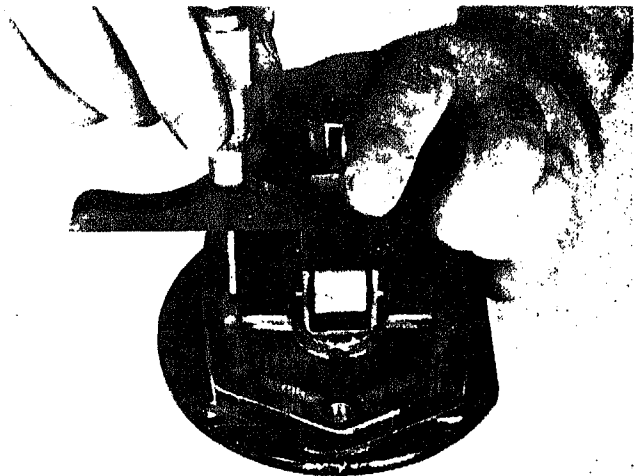

Fig. 506-14 Measuring assist plunger protrusion
- a. Place one leg of the depth mike base of pedestal across the carrier walls and measure down to the front cover gasket surface (no gasket). Fig. 506-14. Move the depth mike to the opposite side of the carrier and again measure to the front cover gasket surface directly across the cover from the previous measurement (do not turn carrier or cover). Average these two measurements. This procedure is necessary to eliminate any possible influence of uneven carrier wall heights.